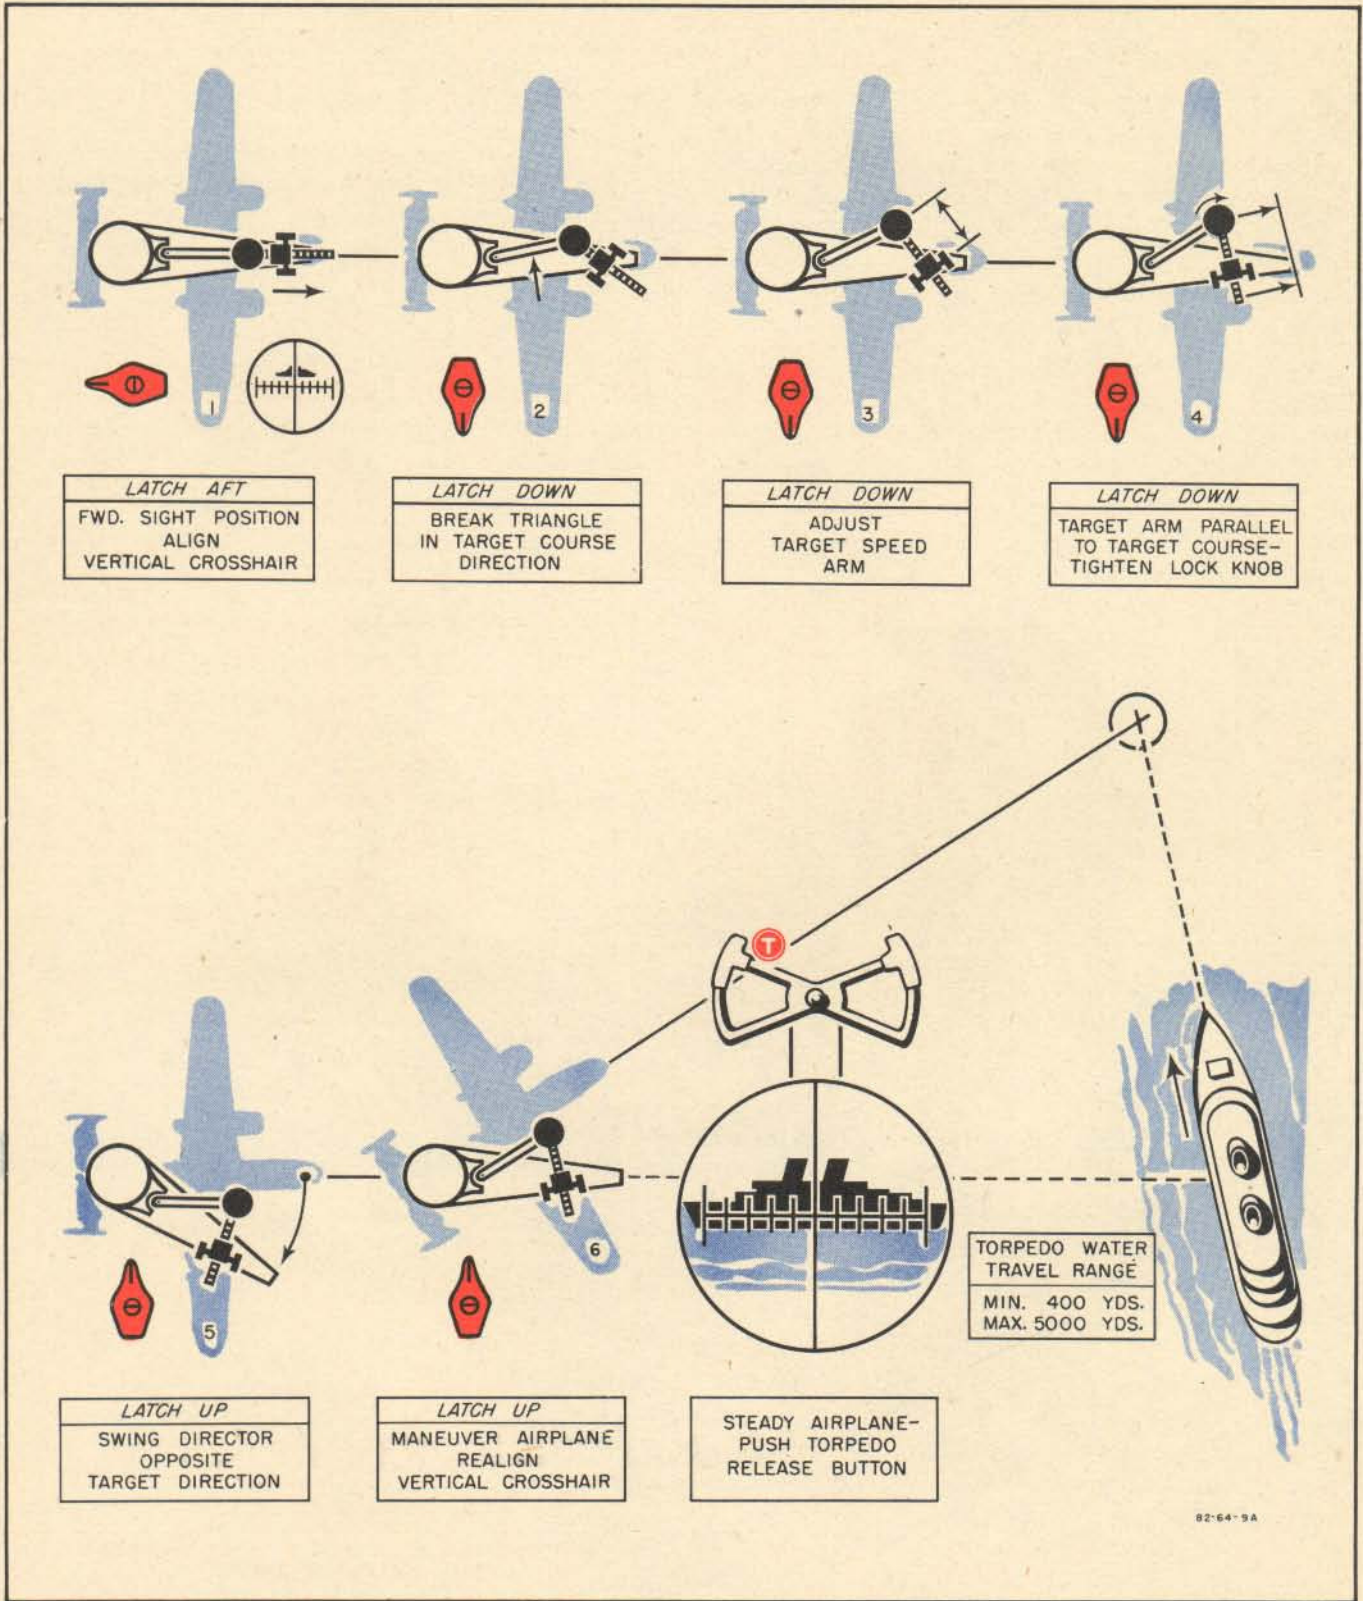

Figure 39—Operation of Torpedo Director
(1) DESCRIPTION.—A torpedo may be carried as an alternate bomb load. The torpedo equipment is not supplied with the airplane and must be obtained as a kit. With the torpedo installed, the bomb bay doors are only partially closed and rest against the pads on the torpedo rack. The doors must be fully opened before dropping the torpedo. After the torpedo is released, the protruding parts of the torpedo rack automatically retract and the bomb doors may then be closed. No bombs can be carried in the bomb bay when the torpedo rack is installed.
(2) OPERATION.—The torpedo is released as follows (see figure 39):